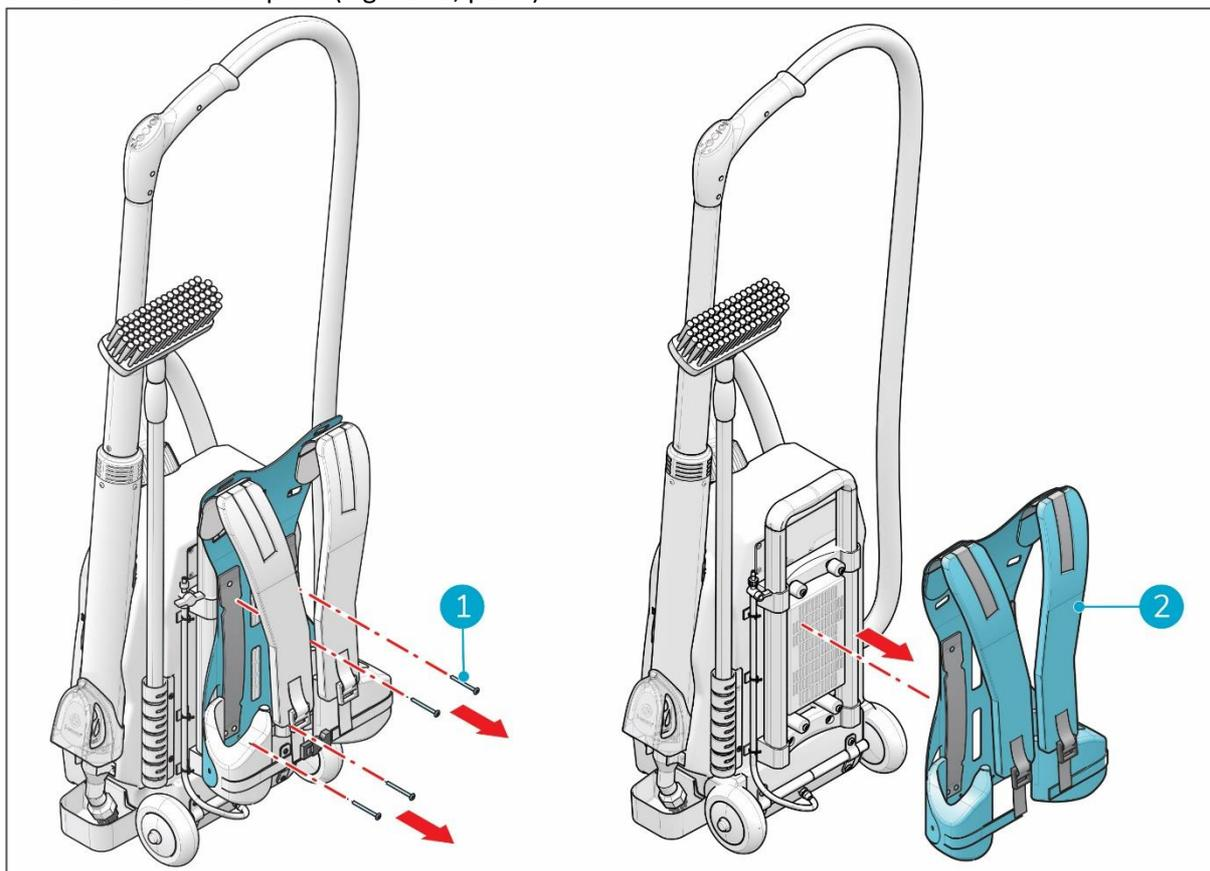

Figure 9
1. Remove padding (Figure 9, pos 1) that is attached to the back plate with Velcro.